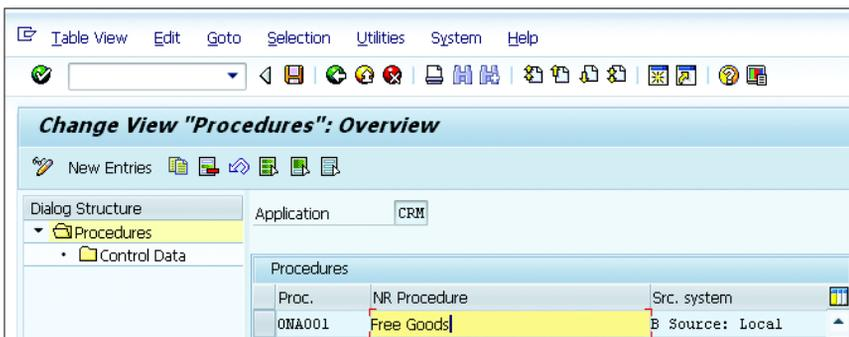
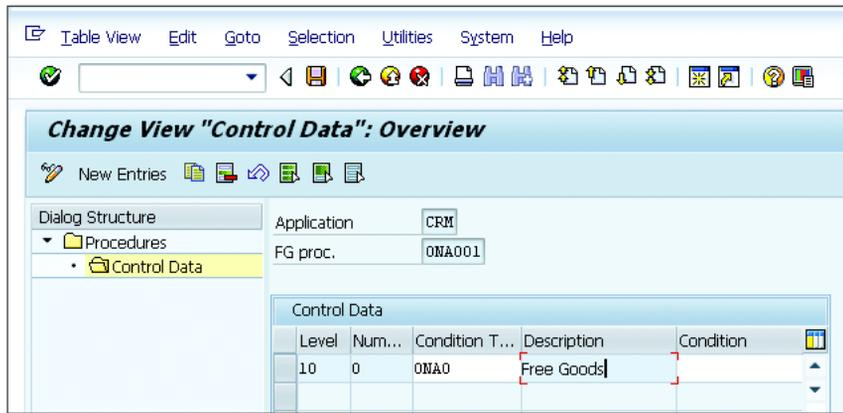

Figure 4.148 Free Goods Determination Procedure
Figure 4.149 Condition Type within the Free Goods Determination Procedure
4. Create the free goods determination procedure similar to the pricing procedure. Navigate to SAP CRM under CUSTOMER RELATIONSHIP MANAGEMENT • BASIC FUNCTIONS • FREE GOODS • SET UP FREE GOODS • CREATE FREE GOODS DETERMINATION PROCEDURE. Assign the condition type to the free goods determination procedure, as shown in Figure 4.148 and Figure 4.149.